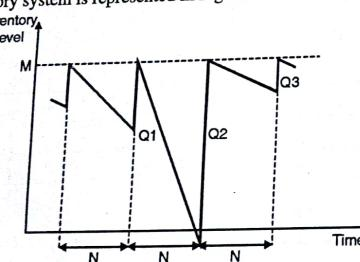

Fig. 2.3.2 : Probabilistic Order Level
- A simple inventory system is represented in Fig. 2.3.2.
- In Fig. 2.3.2 the lead time is zero, but in reality lead time is random of some positive length.
- In Fig. 2.3.2 demands are shown as uniform over this time period, but in reality demand fluctuate over time.